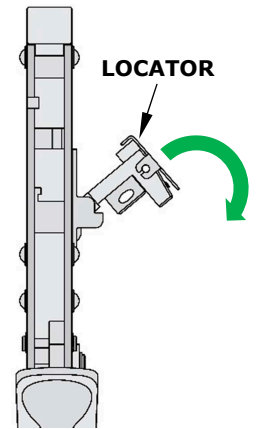

Figure 1
1. Swing out the contact locator. See Figure 1.